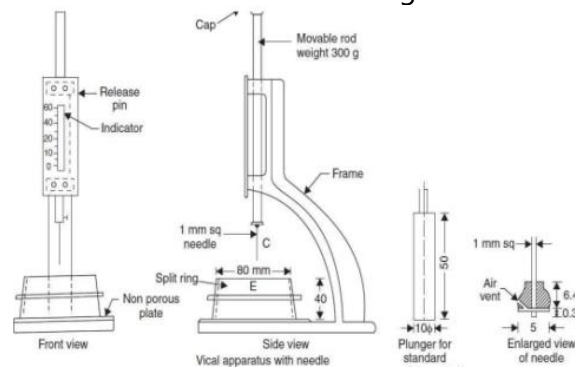

Fig.1.2 Normal consistency of cement
2.2 Determine the quantity of water required to produce a cement paste of standard consistency. It is used as a parameter for other tests like setting time, soundness and compressive strength test of Cement. As shown in Fig.1.2.